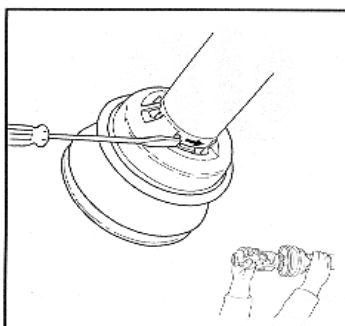

Figure 52: Turning Bearing
3. Turn the bearing in the direction as indicated in Figure 52. Then, slide guard off the bearing.